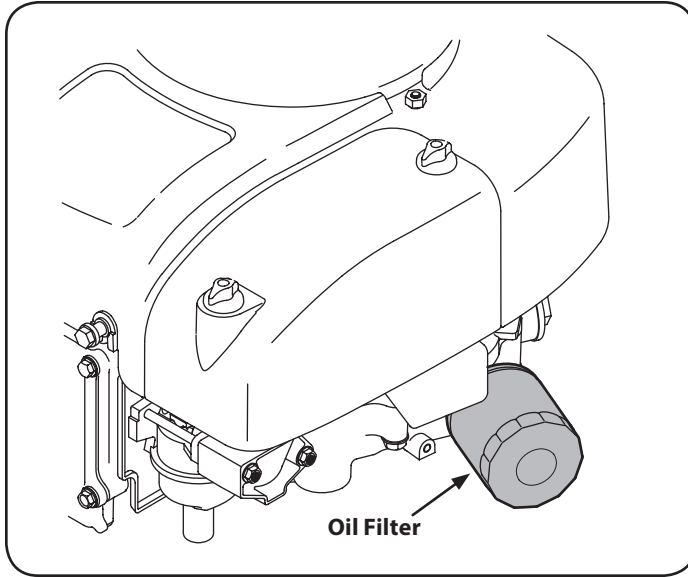

Figure 12
10. Remove the oil filter, see Figure 12, and dispose of it properly.